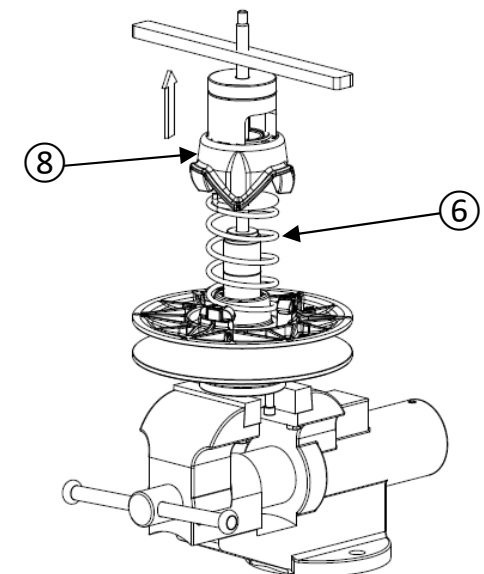

Figure 22
- Slowly unscrew the bar on the threaded rod to release the spring ⑥ tension (figure 22).
Never remove the bar from the disassembly tool until the cam ⑧ is in a free state (Figure 22).